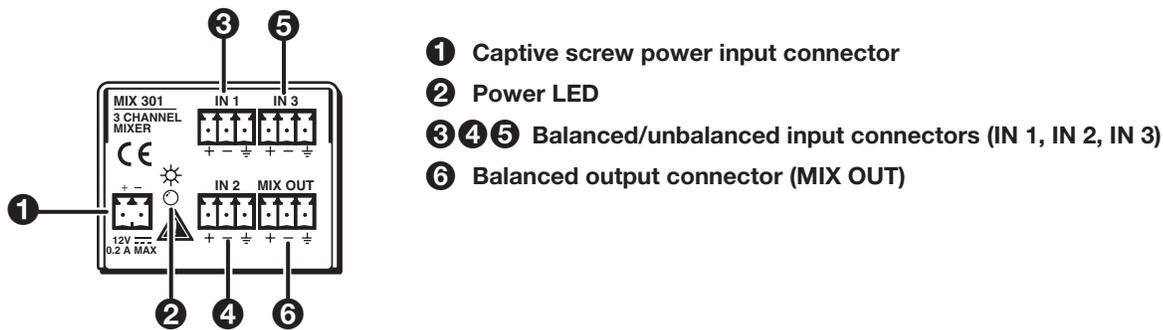

Figure 2. MIX 301 Rear Panel
- 1 Captive screw power input connector** (see **figure 2** on the previous page) — Connect the included 12 VDC external power supply into the 2-pole 3.5 mm captive screw connector. Be careful to observe the correct polarity.